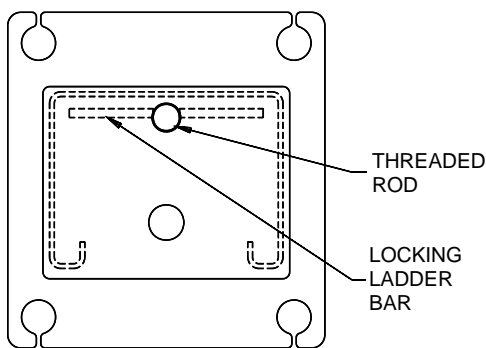

Fig 7 – Locking Ladder Orientation
- 14) Stand up both rear (small) column assemblies near the rear corners of the lift and check the locking ladder bar orientation per Fig 7. Note that the center of the threaded rod is offset (away from the back of the column) from the center of the ladder. Thread the locking ladder jam nut (located under the column top plate) down approximately 6" to allow the ladder to be lifted freely.